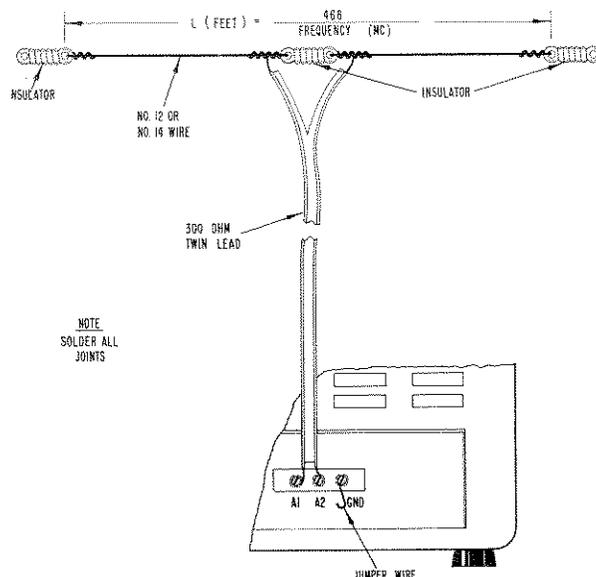

Fig. 5. Doublet Antenna using Twin-Lead Transmission Line
**Half-Wave Doublet Antenna.** For top performance, especially on the shortwave and amateur bands, the use of a half-wave doublet or other type of antenna employing a 50 to 600 ohm transmission line is recommended. A typical doublet antenna installation is shown in Fig. 5. The doublet antenna should be cut to the proper length for the most used frequency or band of frequencies. The overall length in feet of a doublet antenna is determined by the following formula:
The doublet antenna may be fed with either a balanced or unbalanced transmission line. When a balanced transmission line such as "twin-lead" or a twisted pair is used, the transmission line connects to terminals "A1" and "A2", and the jumper wire between terminals "A2" and "GND" is disconnected. (See Fig. 5.) When using an unbalanced transmission line such as coaxial cable, the inner conductor connects to terminal "A1", the outer braid connects to terminal "A2", and the jumper wire connects between terminals "A2" and "GND". A ground wire may improve reception when using an unbalanced transmission line. By feeding the doublet antenna with a transmission line having an impedance of 300 ohms, a broader frequency response is obtained than that possible with a 50-75 ohm line.